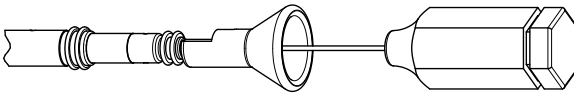

Figure 2. Insert the stylet
3. Insert the chosen stylet through the terminal pin or the stylet guide if using one (Figure 2 Insert the stylet on page 12).